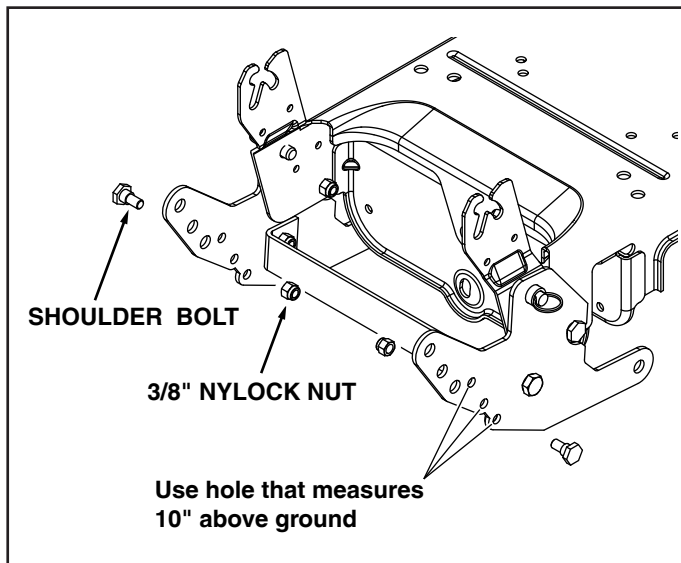

FIGURE 4
STEP 4: (SEE FIGURE 4)
- Measure from the center of the three holes indicated in figure 4 to select the hole that is approximately 10" above the ground in both front mount plates.